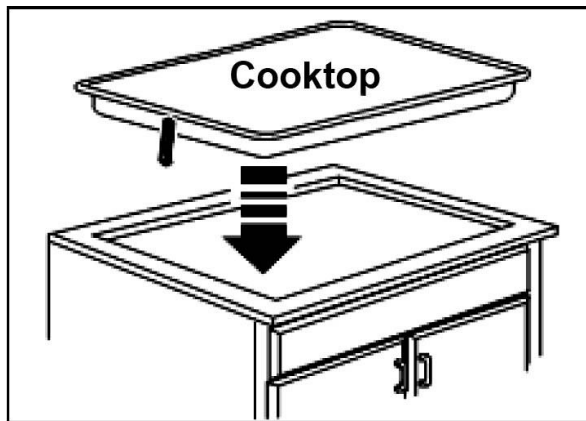

Figure 11
4) After the foam gasket has been affixed, place the cooktop into the countertop (see Figure 11).